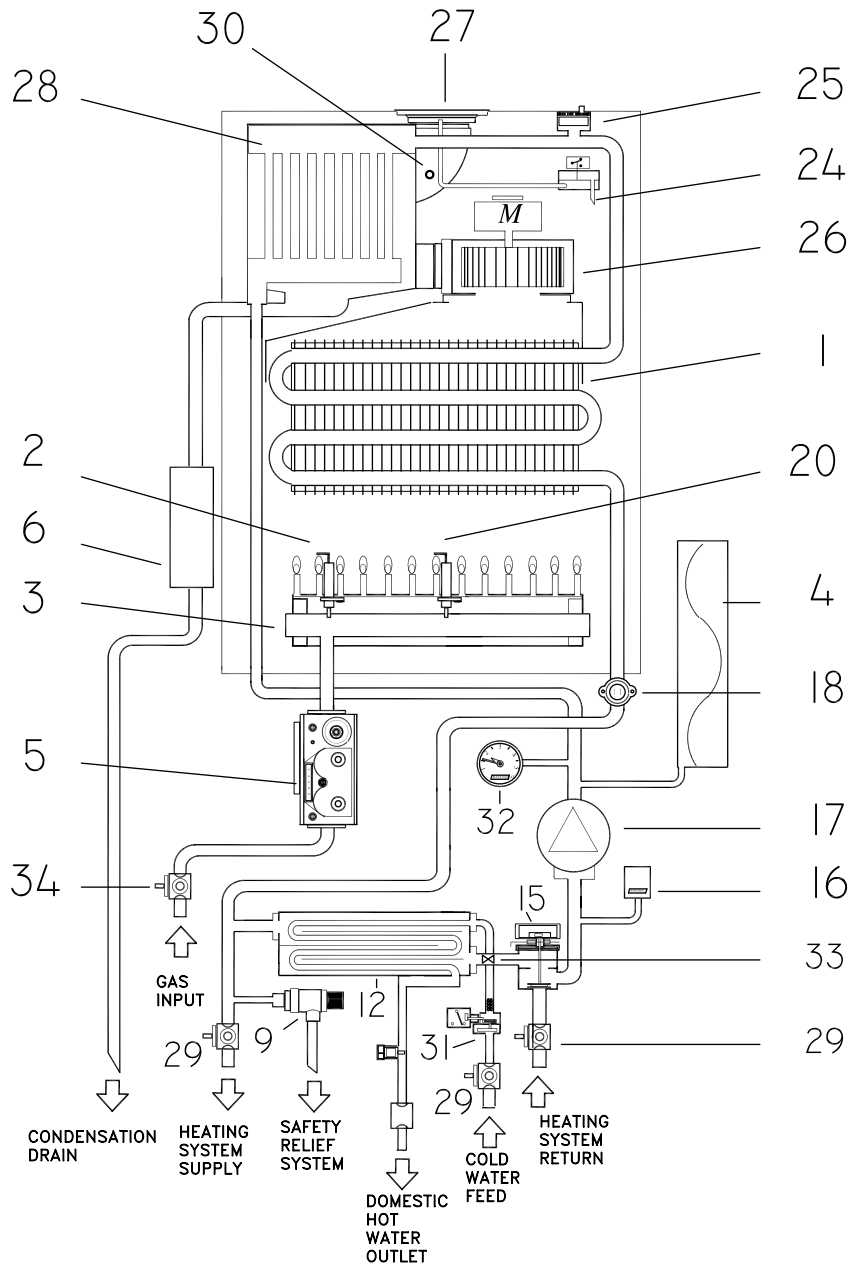

Fig. 2
**1.2** Fig.1. Illustrates the general layout of components. Fig. 2. Illustrates the operating scheme described in section 2.